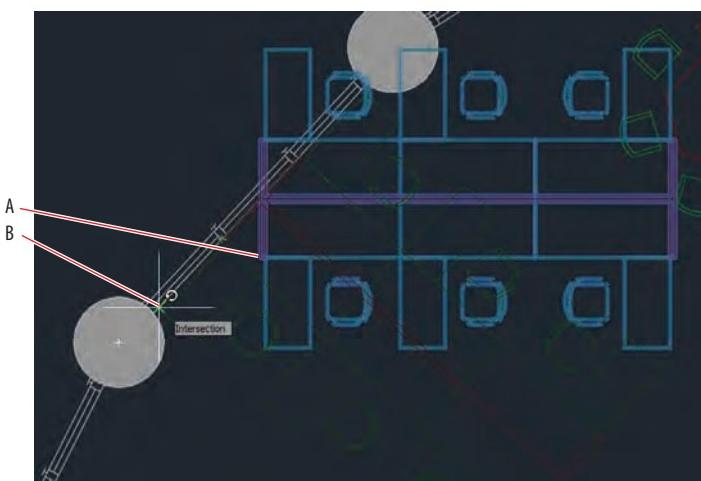

FIGURE 4.17 Rotating with the Reference option
6. Click endpoint A as shown in Figure 4.17 to specify the second point of the reference angle and point B to specify the second point of the new angle. The furniture group rotates so that it is parallel and centered on the window wall.